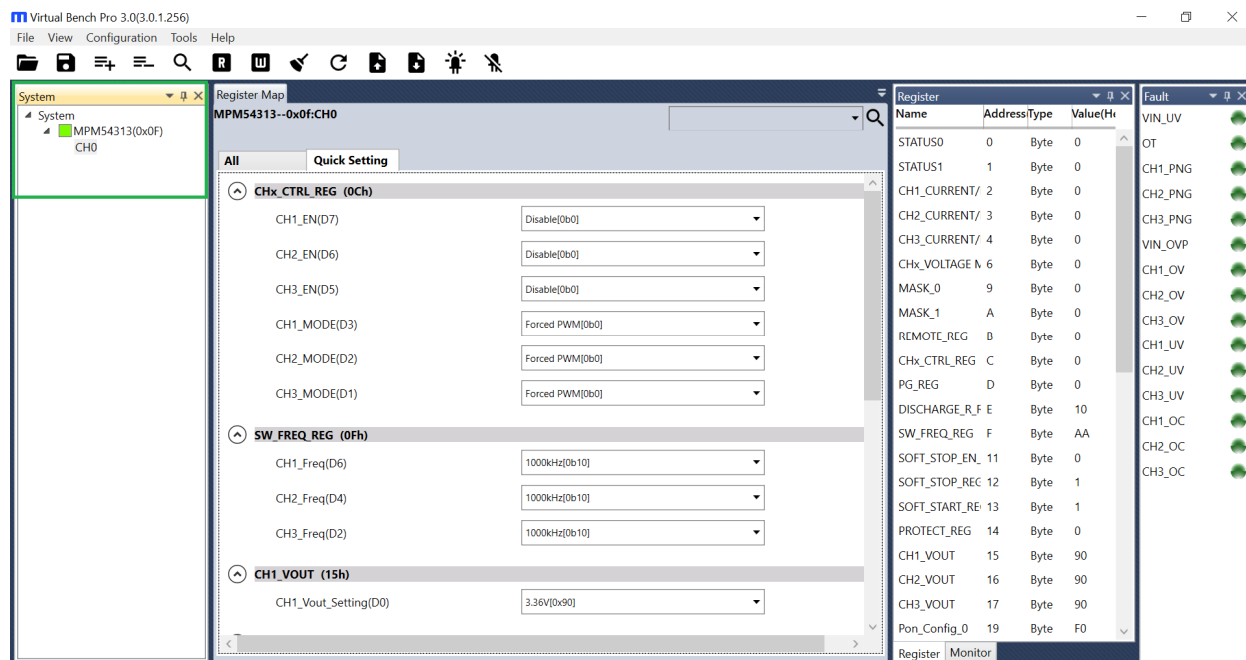

Figure 3: Successful Connection
3. If the GUI detects the power module, then an address should appear next to “MPM54313” on the left panel (e.g. 0x0F), and the indicator to the left should turn green (see Figure 3).